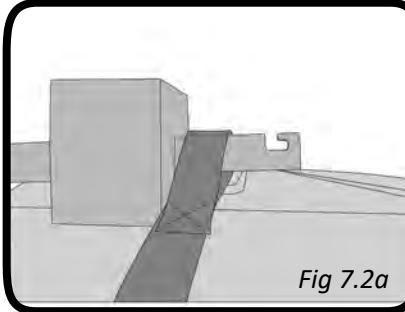

Fig 7.2a
2. Attach loop by first sliding it past the hook then feeding it into the hook. (Fig 7.2a, b, & c)